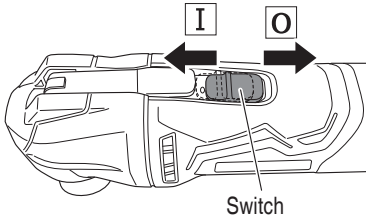

Fig. 4
8. Sliding the switch towards **I** will switch on. (Fig. 4)